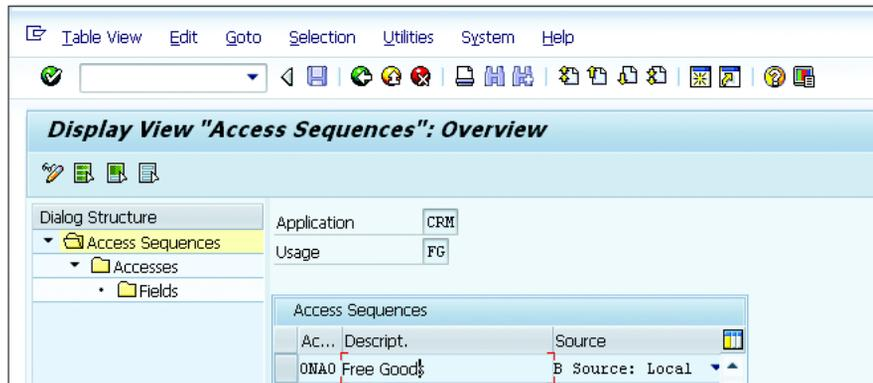
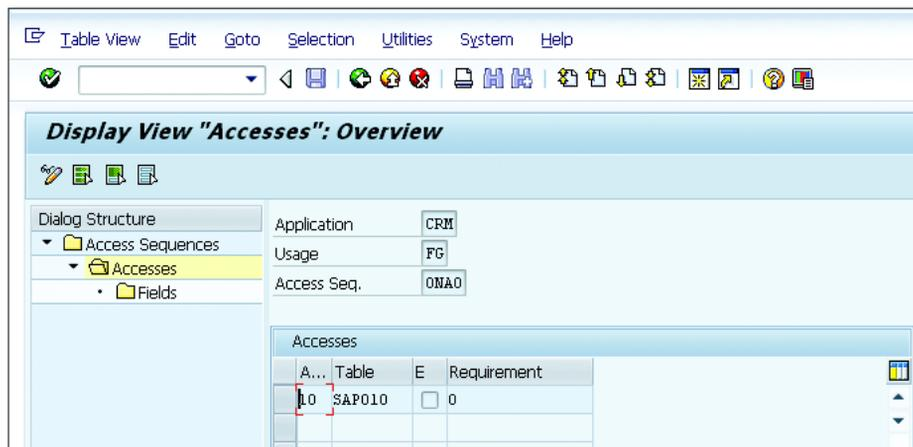

Figure 4.145 Access Sequence for Free Goods
Figure 4.146 Assigning the Table to the Access Sequence
2. To create an access sequence, navigate to CUSTOMER RELATIONSHIP MANAGEMENT • BASIC FUNCTIONS • FREE GOODS • SET UP FREE GOODS • CREATE ACCESS SEQUENCES. Similar to the pricing configuration, you have to create the access sequence for the free goods determination. Figure 4.145 and Figure 4.146 show the access sequence screen with the table assigned to it.